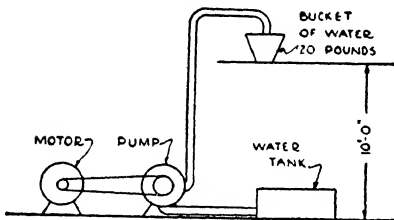
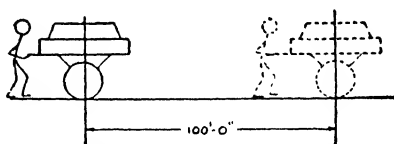

Fig. 3. Pumping Water by Means of a Motor Driven Pump
Fig. 4. Man Pushing a Cart in Which Resistance to Motion Is Twenty Pounds
Suppose, instead of lifting the water by manual effort, it is forced up to the bucket by a pump driven by a motor, as shown in Fig. 3. In order to fill the bucket, which is placed upon the platform 10 feet above the level of the water tank, 20 pounds of
Fig. 4 shows a man pushing a cart. To keep the cart moving at a constant speed, it is necessary that the man apply a force of 20 pounds to overcome the friction or resistance to motion. Therefore, when he has pushed the cart 100 feet, he has performed an amount of work equal to force times distance, or
**Power** means the speed or rate of doing work. The faster **work** is done, the greater the **power** required to do it. Fig. 3 shows a motor-driven pump raising water from a tank to a platform 10 feet above it. To deliver 20 pounds of water, it will take 200 foot pounds of work. In order to deliver this water at the rate of 20 pounds per second to a height of 10 feet, the power required is  $\frac{20 \times 10}{1} = 200$  foot pounds per second, or  $200 \times 60 = 12,000$  foot pounds per minute. First, we found the **power** required per second to lift 20 pounds of water in a second by dividing the **work** by **one second**. Then we found the foot pounds per minute by multiplying 200 by the number of seconds in a minute. Suppose the man shown in Fig. 4 pushes the cart 100 feet in six seconds. The power required is **work** done divided by the time, or  $\frac{20 \times 100}{6} = 333\frac{1}{3}$  foot pounds per second.
Referring to Fig. 3, the horsepower required to raise 20 pounds of water 10 feet in one second is
The horsepower required to push the cart, Fig. 4, a distance of 100 feet in 6 seconds, that is, to do 20,000 (see explanation on page 49) foot pounds work per minute, is
In the problem illustrated by Fig. 3, it was stated that 20 pounds of water was being delivered to the platform in one second. Thus we speak of the water as flowing at the rate of 20 pounds per second. In much the same way we speak of electricity as flowing along a wire at the rate of so many **coulombs** per second. The coulomb is the unit of quantity of electricity, just as the gallon is the unit of quantity of water. We have to consider the rate of flow of electricity so often that we have a special name for the unit of rate of flow (one coulomb per second). We call it an **ampere**. Thus 5 amperes means 5 coulombs per second.